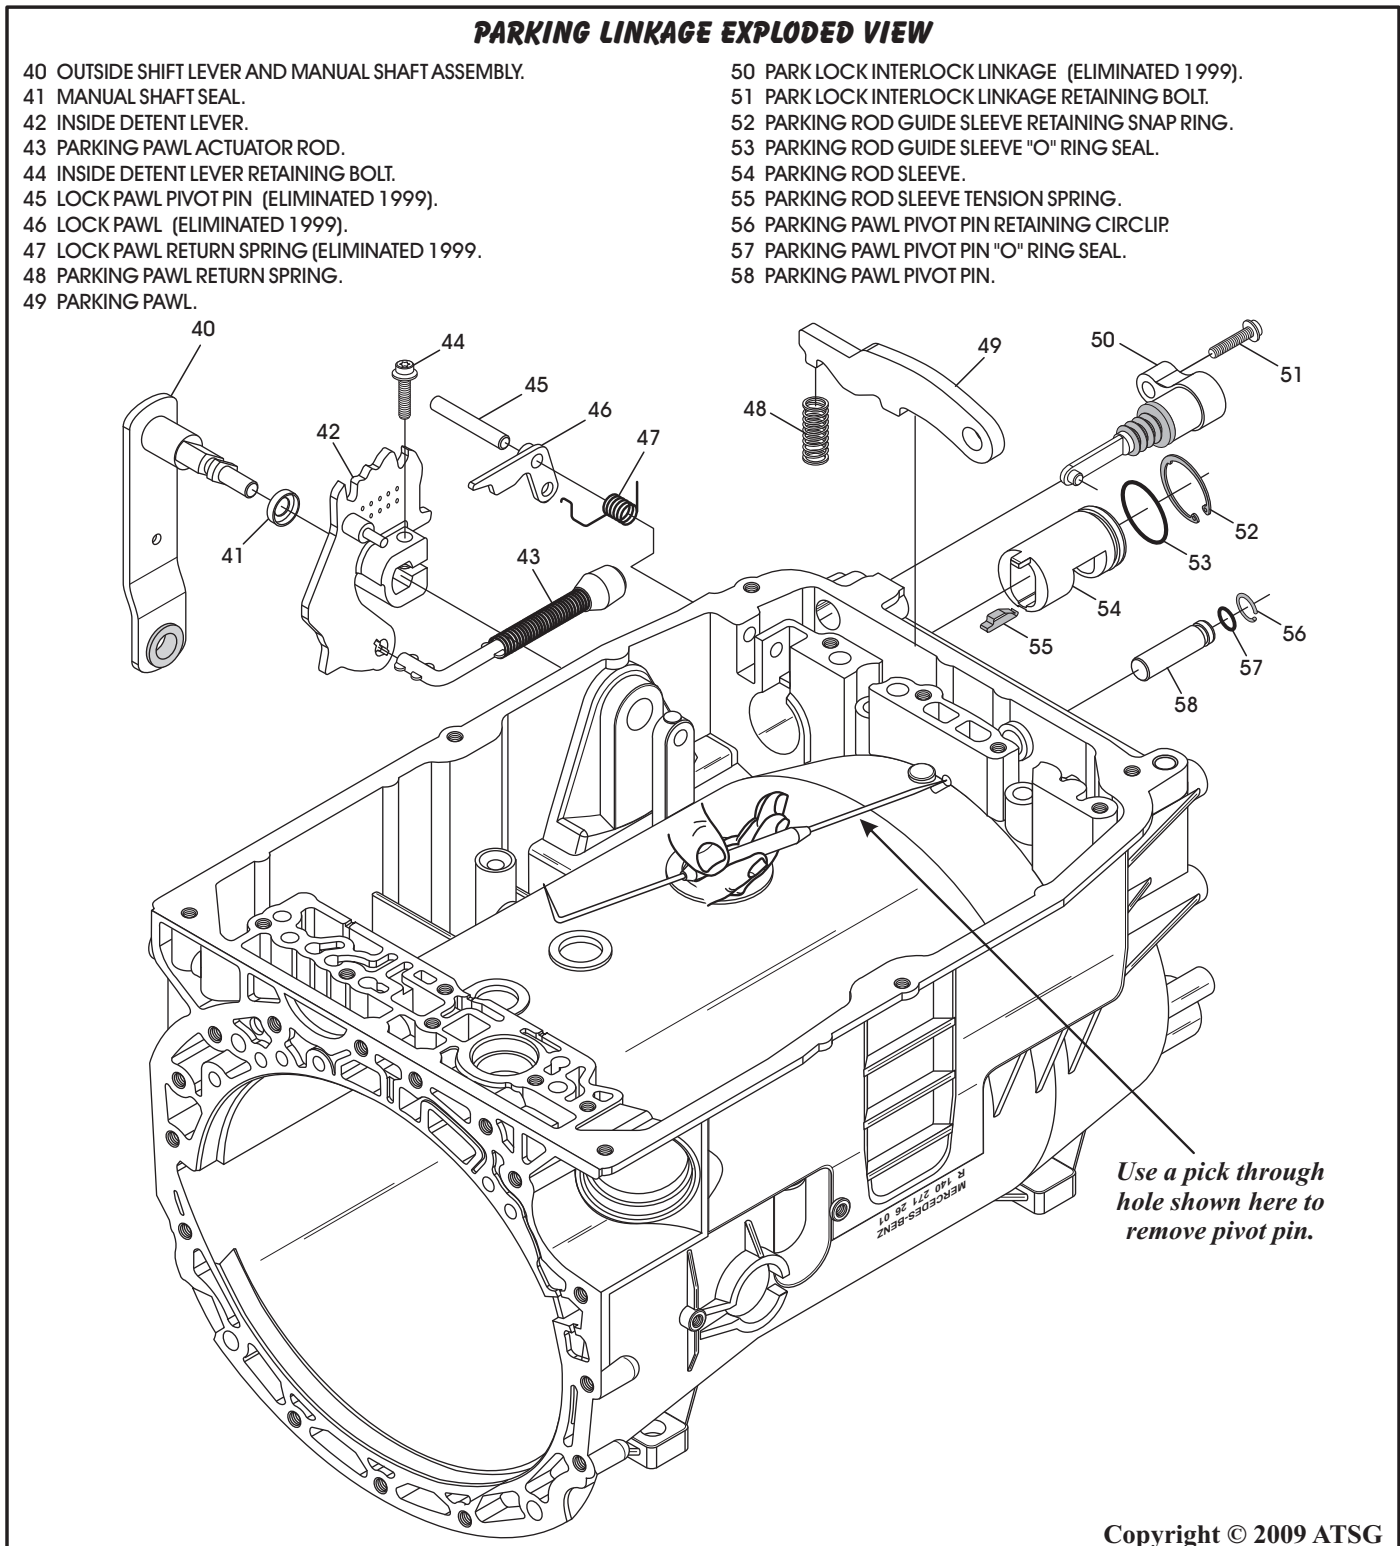

Figure 58
41. Remove outside shift lever and manual shaft from case, as shown in Figure 58.
42. Remove inside detent lever and parking rod as an assembly from case (See Figure 58).
43. Push the parking pawl down against the spring pressure and remove the parking rod guide sleeve (See Figure 58).
44. Use a pick through the hole in case, as shown in Figure 58, to push the parking pawl pivot pin out of case.
45. The Parking Lock Interlock Linkage (PLIL), as shown in Figure 58, cannot be removed unless you first remove the lock pawl pivot pin (45), lock pawl (46), and lock pawl spring (47).
3. Install parking pawl and return spring into the case, as shown in Figure 58.
4. Install new "O" ring seal on the parking pawl pivot pin, as shown in Figure 58, and lube with a small amount of Trans-Jel®.
5. Install parking pawl pivot pin into case bore and through parking pawl (See Figure 58).
6. Install new "O" ring seal on the parking rod guide sleeve, as shown in Figure 58, and lube with a small amount of Trans-Jel®.
7. Push down on the parking pawl against spring pressure and install parking rod guide sleeve into the case bore, with the tension spring on the guide sleeve facing away from pan rail, as shown in Figure 58.
9. Install the parking rod into the inside detent lever, as shown in Figure 58.
10. Install the assembly into the case with the park rod going into the sleeve, install the outside shift lever and manual shaft through the case and into the inside detent lever, as shown in Figure 58.